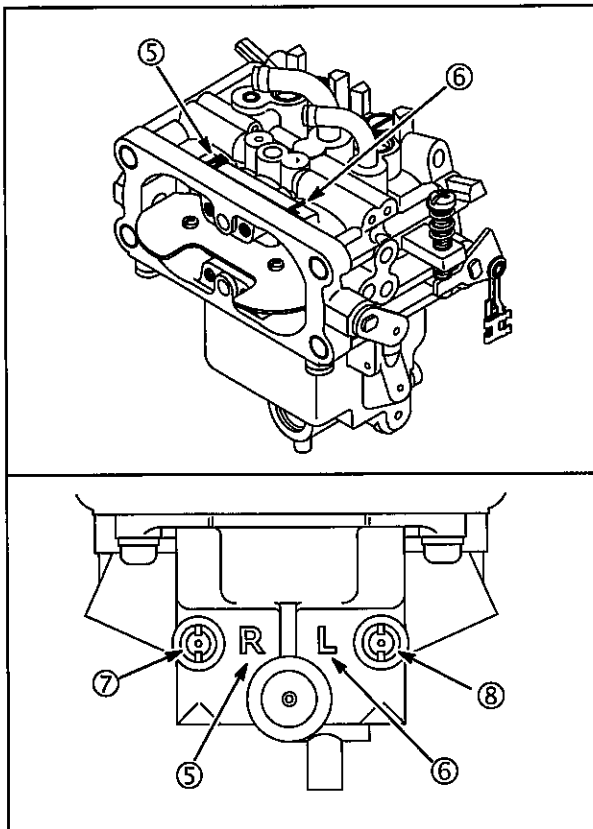

Fig. 61
3. Remove fixed main jets (7, 8), Fig. 61.
The carburetor is marked in the upper body near the choke jet plate and the lower body near the main jet plugs. See Fig. 61.